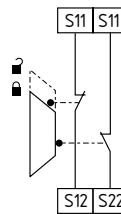

Fig. 9
**Dual-channel guard door monitoring circuit with interlocking device to ISO 14119 (Fig. 9)**